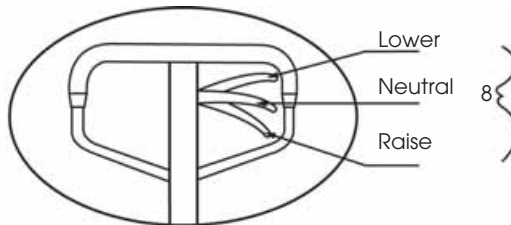

Fig. 3
8. Try raising the forks by pushing the trigger, item 8, Fig. 3 down until it latches. Pump handle backwards and forwards, forks should lift. and should remain in up position.